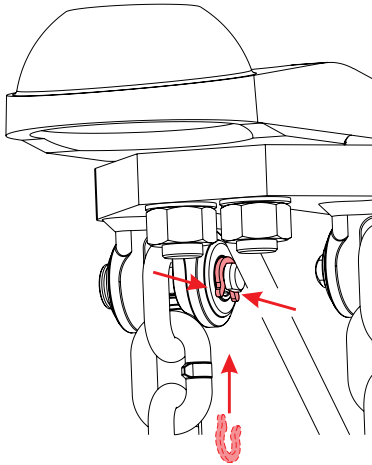

Fig 3.1 Trailer attachment, close pinch clip with multi-grips or similar to permanently retain safety chain.
- **Trailer Attachments:** Fit end link of chain into trailer attachment and capture using fixed (grooved) pin*. Insert pinch clip into groove, clinch end tabs of pinch clip with multigrips or similar to close securely. **(Fig. 3.1)**